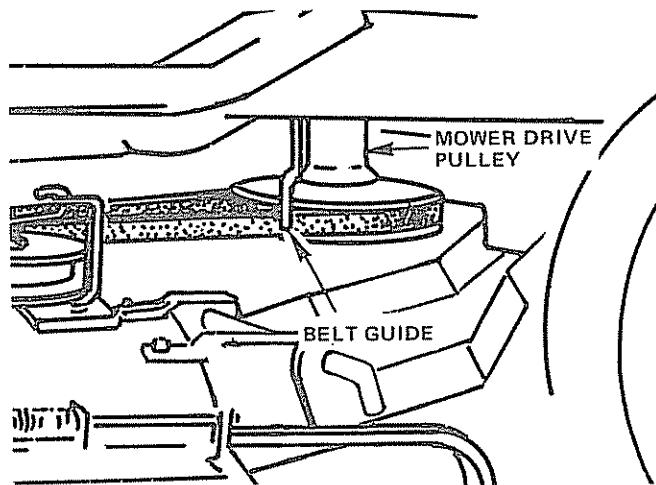

FIGURE 14
4. Roll Belt over Mower Drive Pulley. Make sure Belt is inside Belt Guides (Fig. 14) See Belt Drive Schematic Decal on Mower Housing.